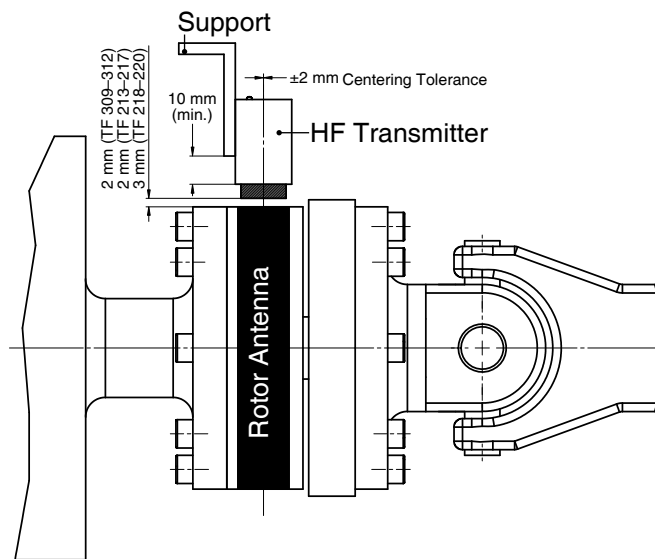

Figure 2–16 HF Transmitter Installation
- The HF transmitter must be mounted onto a support which can be easily adjusted both horizontally and vertically. To prevent any disturbance of the transmitted signal, the support must be at least 10 mm away from the HF transmitter rim (see *Figure 2–16 HF Transmitter Installation*). The support must also be stable in order to prevent excessive vibrating of the HF transmitter and, consequently, avoid electromagnetic coupling problems between the rotor antenna and the HF transmitter.
If the TF Torque Flange Sensor is ordered with optional speed measurement capabilities, the HF Transmitter and the speed sensor must be mounted offset from each other with at least a 90° angle, as shown in *Figures 2–17 and 2–18*.